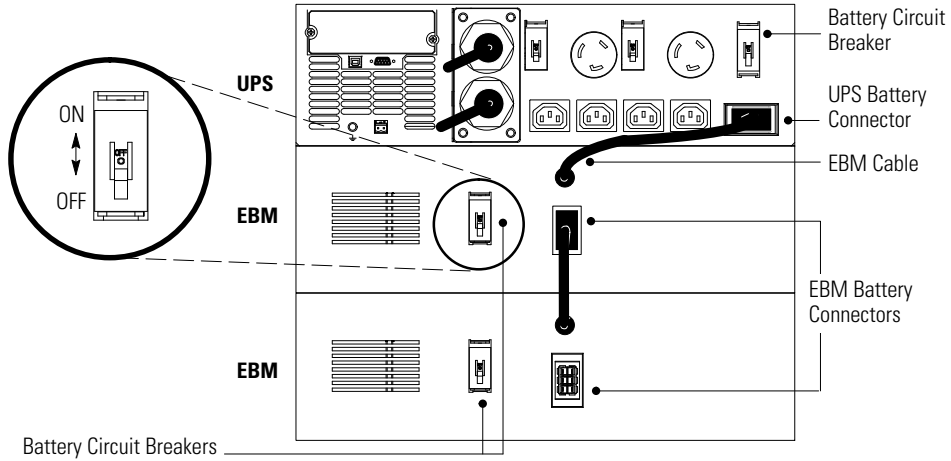

Figure 6. Eaton 5125 EBM Connections
1. Switch all battery circuit breakers to the OFF position (see Figure 6).
5. Plug the EBM cable into the UPS as shown in Figure 6.